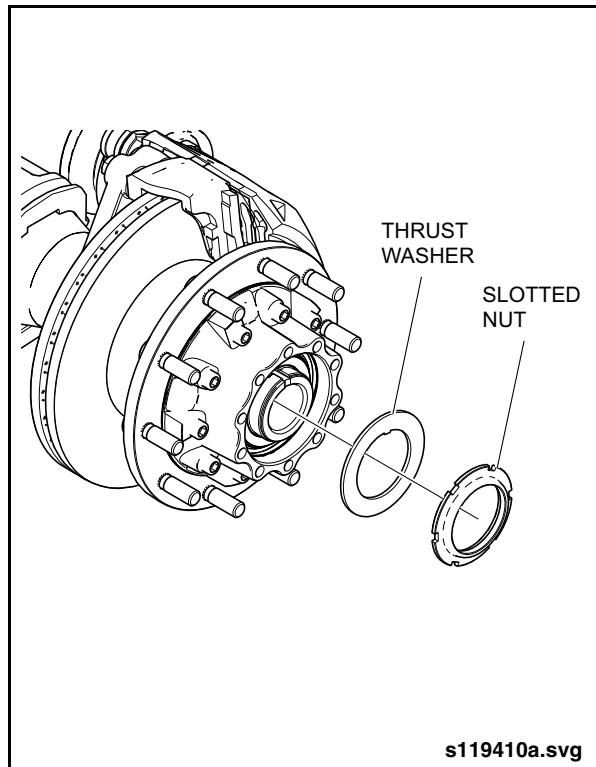

Fig. 2-16: Removing Slotted Nut
2. Remove the slotted nut and the thrust washer. See "Fig. 2-16: Removing Slotted Nut" on page 19.